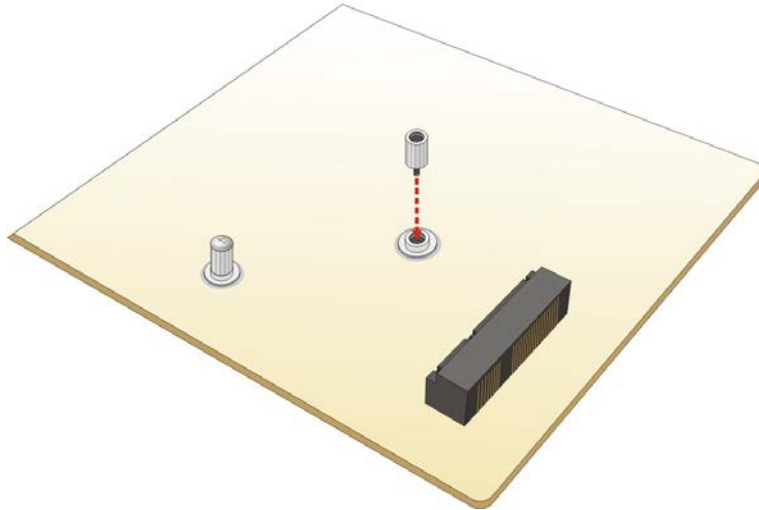

Figure 4-11: Installing the Standoff
Step 2: Install the standoff to the screw hole for the half-size PCIe Mini card. Install the supplied standoff to the screw hole for the half-size PCIe Mini card (**Figure 4-11**).